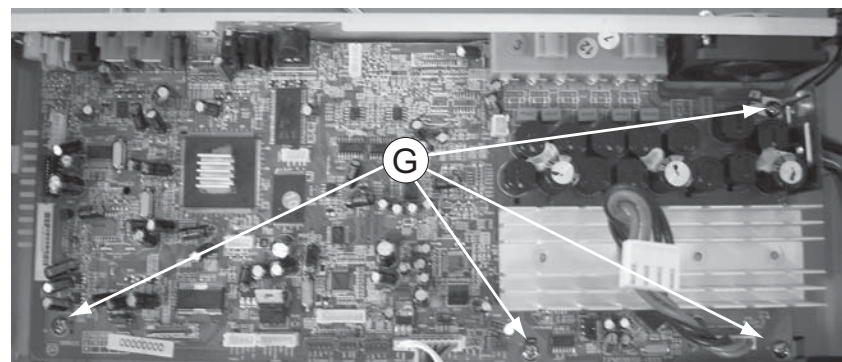

Figure 11
- 1) Loosen 4 screws "G" on the top of Main Board as shown in figure 11.